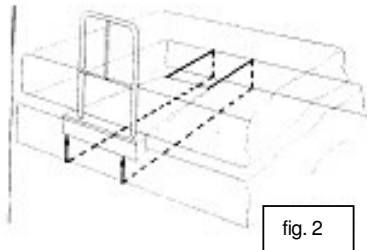

fig. 2
3. Pass the long straps across the top of the bed, down the side, and back under the bed. Secure the buckles (see fig 2 & 3). These straps will fit double or single beds.